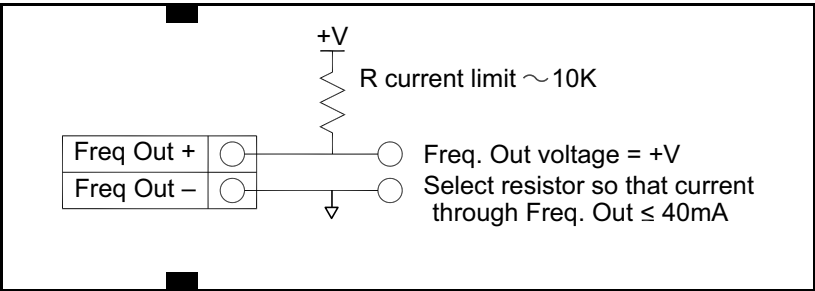

Figure 39: Isolated Frequency Output Using External Power Supply
- For AC or DC powered meters, use a separate 5 to 36 VDC power supply (see Figure 39 on page 43). Use this option if a specific voltage is needed for the frequency output.